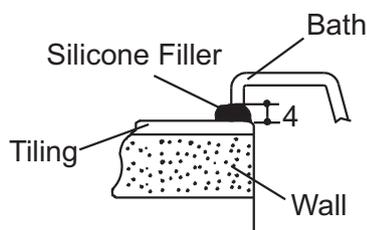

Fig. 1
- The necessary gap between bath rim and the wall is 2 mm horizontally and 4 mm vertically. Refer to figures 1, 2, and 3 above.